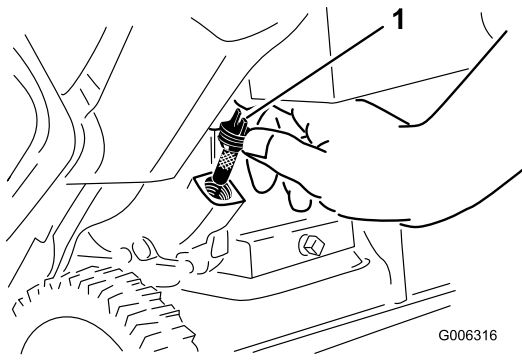

Figure 24
6. Clean around the oil-fill cap (Figure 24).
7. Unscrew the oil-fill cap and remove it (Figure 24).